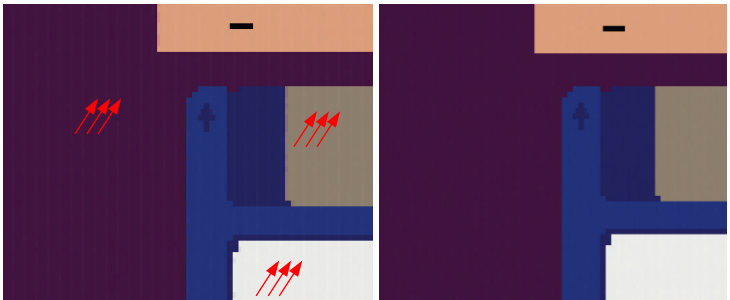

Figure 4: Mitigate "jailbars" (vertical lines) with the control knob parameter **Phase** (7)
The parameter **Phase** (7) adjusts the point in time where the analog video signal is sampled. Adjusting the phase helps to suppress "jail-bars" as shown in Figure 4. This parameter also helps against "wobbly edges", i.e. when pixels of a vertical edge jump back and forth between two pixels.